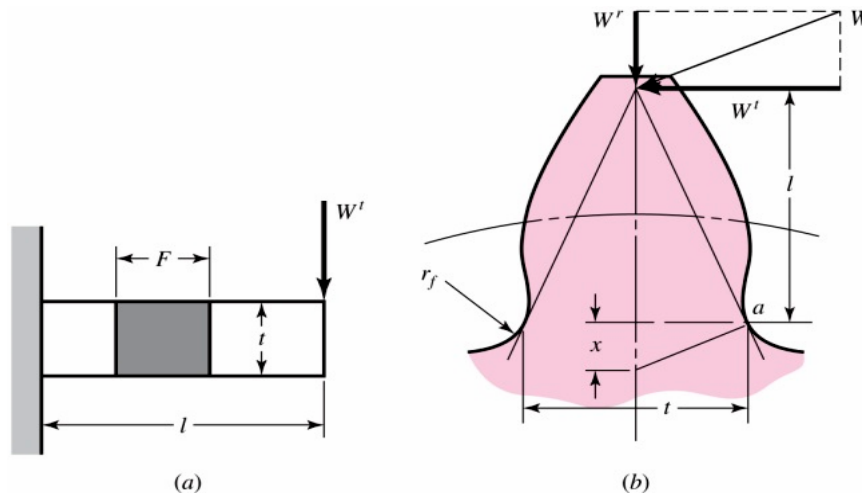

Figure 3b (i)
- (ii) A steel spur pinion has a module of 3 mm, 22 full-depth teeth, and a 20° pressure angle. The pinion runs at a speed of 1200 rev/min transmits 11 kW to a 60-tooth gear. If the face width is 50 mm, estimate the bending stress. You can use Figure 3b(ii) to answer this question.